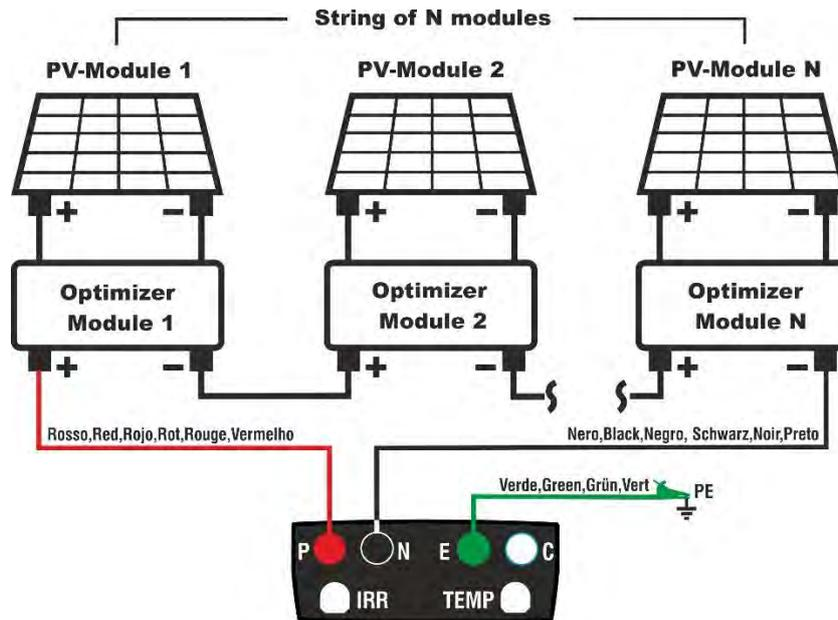

Fig. 10: Connection instrument for insulation measurement with optimizers
5. Connect the instrument to the output of the series of optimizers associated with the string under test as shown in Fig. 10. Specifically, connect the positive pole output from the **first optimizer** to terminal P, the negative pole output from **the last optimizer** to terminal N, and terminal E to the system's main ground reference
4. Connect the instrument to the output of the series of optimizers associated with the string under test as shown in Fig. 10. Specifically, connect the positive pole output from the **first optimizer** to terminal P, the negative pole output from **the last optimizer** to terminal N, and terminal E to the system's main ground reference